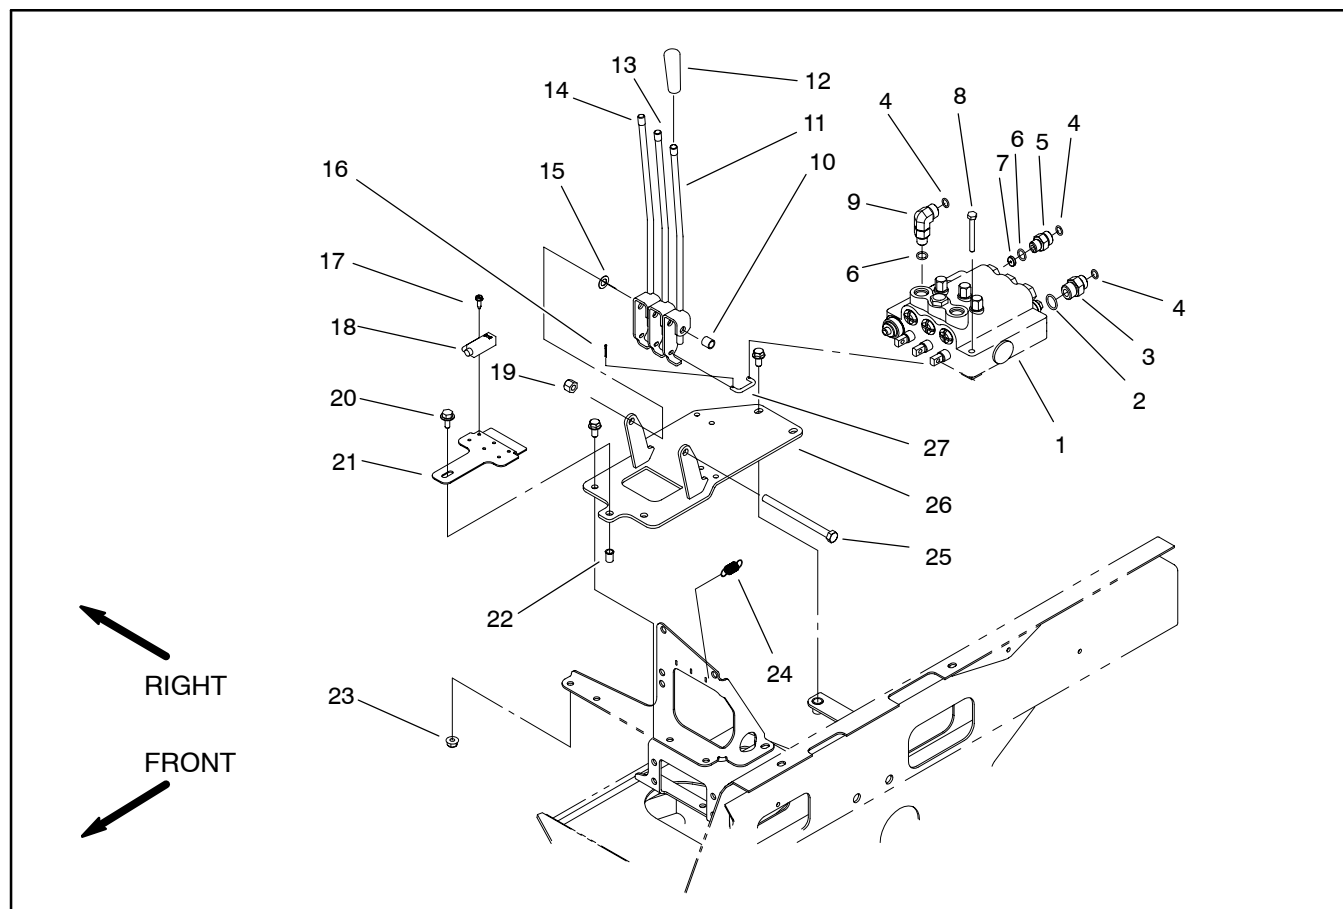

Figure 86
4. Remove lift/lower control valve using Figure 86 as a guide.
1. Install control valve using Figure 86 as a guide.